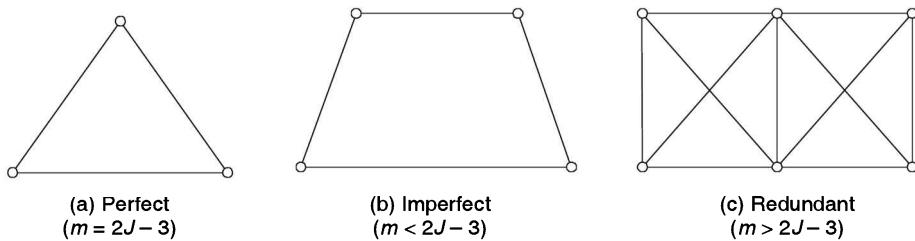

FIGURE 11.1 Types of plane truss.
A truss is said to be perfect if the number of members is just sufficient to prevent its distortion when it is subjected to an external force system. For a perfect truss, the correlation between the number of joints (J) and the number of members (m) is given by the equation $m = 2J - 3$. The truss in Figure 11.1(a) is a perfect truss as it has 3 members & 3 joints ($m = 3 = 2J - 3 = 3$). A perfect truss is statically determinable, i.e. equations of static equilibrium are sufficient to determine the forces in its members.
A truss is termed an imperfect truss if the number of members in it is less than what is required for a perfect truss. Figure 11.1(b) shows an imperfect truss as it has four members, instead of five members, which are required for a perfect truss ($m < 2J - 3$). An imperfect truss cannot prevent geometrical distortion when loaded. It is also statically indeterminate.
A redundant truss has members more than that is required for a perfect truss. A redundant truss is shown in Figure 11.1(c). It has 6 joints and 11 members ($m > 2J - 3$) while the truss needs only 9 members. A redundant truss is over rigid and statically indeterminate.